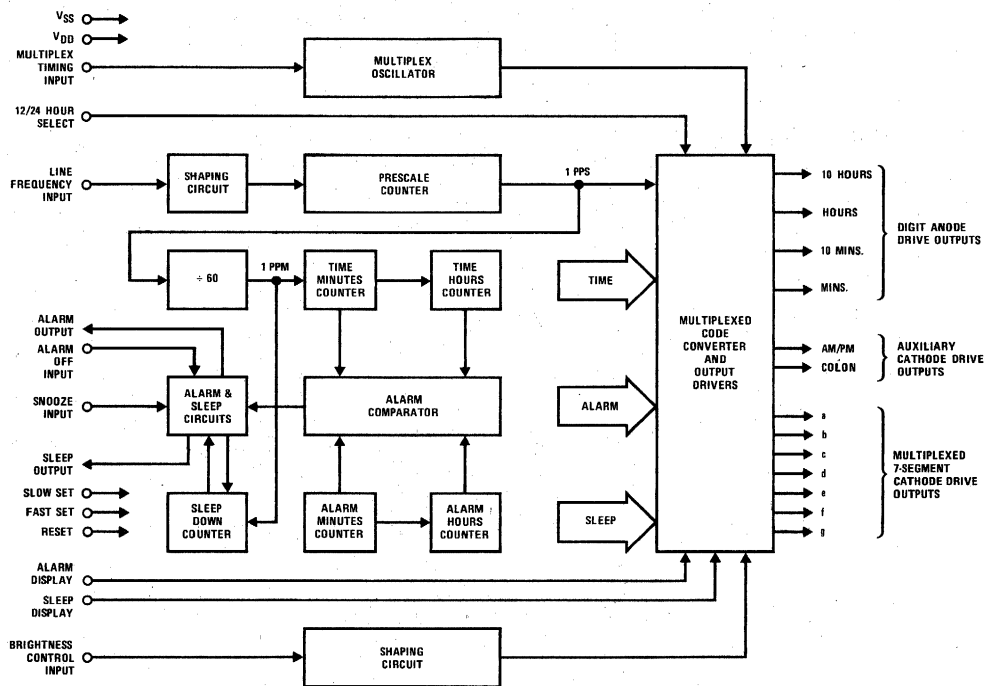
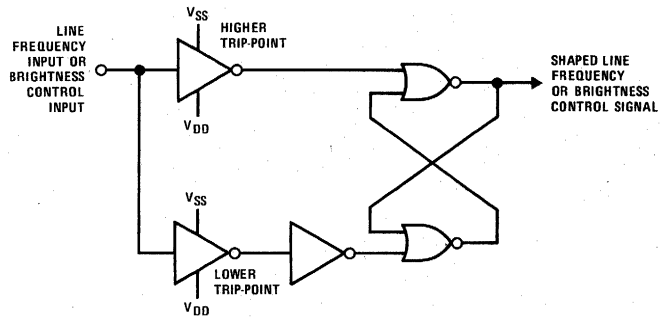
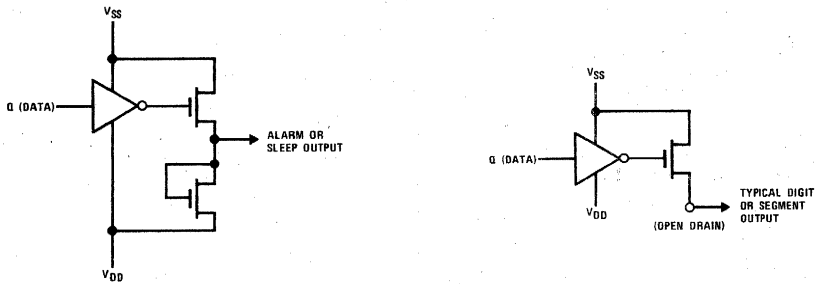
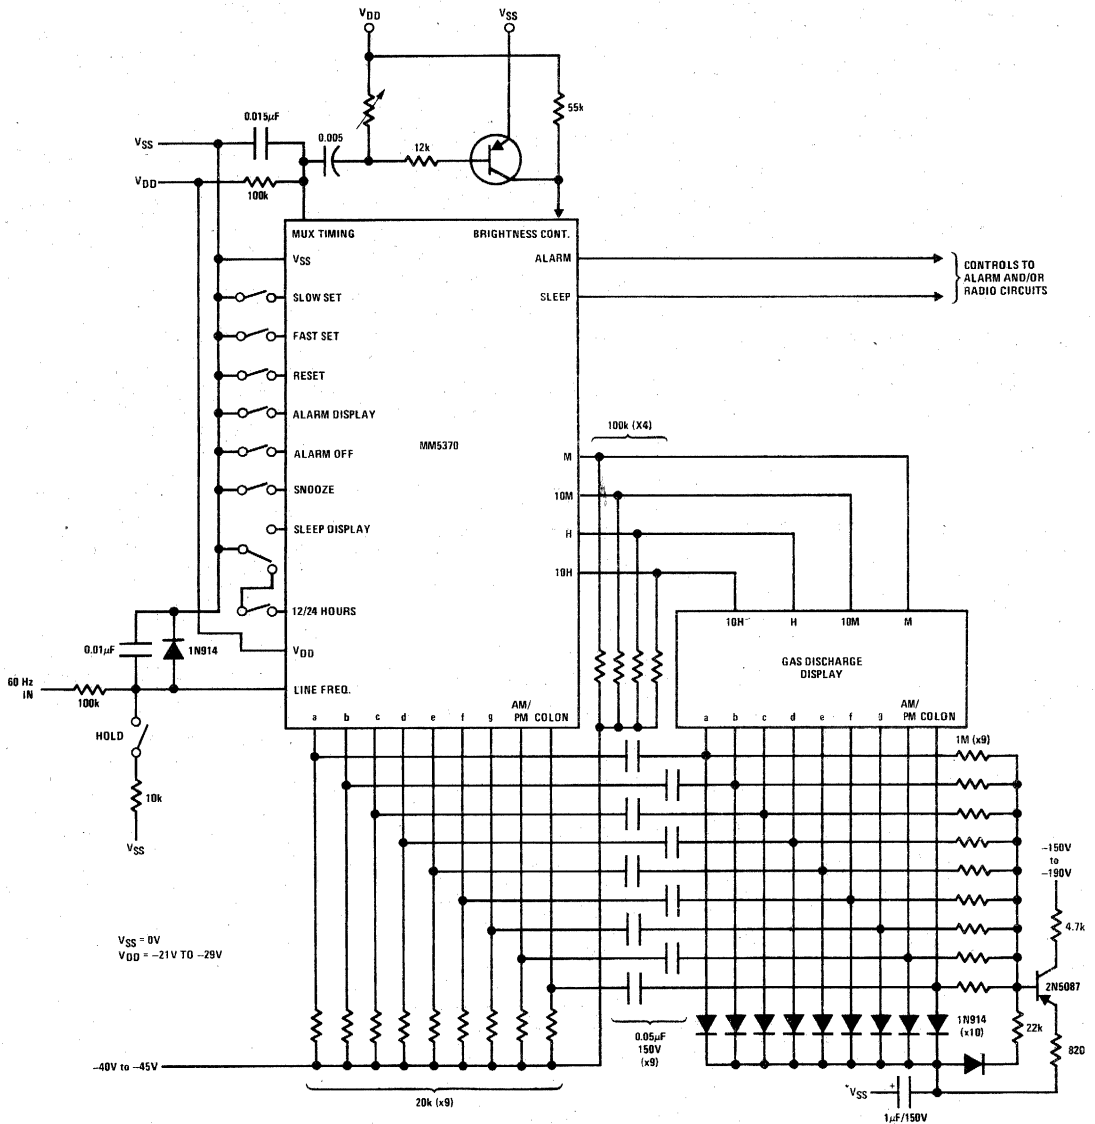

FIGURE 1. MM5370 and MM5371 Digital Alarm Clock, Block Diagram
FIGURE 2. 60 Hz (or 50 Hz) Input (or Brightness Control Input) Shaping Circuit
FIGURE 7. Output Circuits
FIGURE 8. Recommended Application
A block diagram of the MM5370 and MM5371 clocks is shown in *Figure 1*. The various display modes provided by these clocks are listed in Table I. The functions of the controls are listed in Table II. A connection diagram for these devices is shown on page 1. Unless indicated otherwise, the following discussions are based on *Figure 1*.
Line Frequency Input (pin 12): A shaping circuit is provided to square the 60 Hz (MM5370) or 50 Hz (MM5371) input. This circuit allows use of a sinewave input. The Schmitt Trigger shaper (*Figure 2*) is designed to provide approximately 6V of hysteresis. A simple RC filter, such as shown in *Figure 8*, should be used to remove possible line-voltage transients that could cause the clock to gain time or damage the device. The shaper output drives a counter chain which performs the time-keeping function. A prescale counter divides the line input frequency to obtain a 1 pps timebase.
Display Mode Select Inputs (pins 7 and 8): In the absence of either of these inputs, the display drivers output time-of-day information to the display. Internal pull-down (to V_{DD}) depletion loads allow use of simple SPST switches for connecting these inputs to V_{SS} , thereby selecting alternate display modes. If more than one mode is simultaneously selected, the priorities are noted in Table I. As shown in *Figure 1* the multiplexed code converter receives time, alarm and sleep information from appropriate points in the clock circuitry. The display mode select inputs control the gating of the desired data to the multiplexed code converter inputs and ultimately (via output drivers) to the display.
Time Setting Inputs (pins 10 and 11): Both fast and slow setting inputs are provided. These inputs are applied either singly or in combination to obtain the control functions listed in Table II. Again, internal pull-down depletion loads are provided; application of V_{SS} to these pins effects the control functions. Note that the control functions proper are determined by the selected display mode. An optional hold-time control function can be obtained as shown in *Figure 8*.
12 or 24-Hour Select Input (pin 13): By leaving this pin unconnected, the clock is programmed to provide a 12-hour display format. This format provides for zero-blanking the most significant display digit (ten's of hours). An internal pull-down depletion load is again provided; connecting this pin to V_{SS} programs the 24-hour display format. (See *Figure 8*).
When driving gas discharge displays which enclose more than one digit in a common gas envelope, it is necessary to either (1) inhibit the segment drive voltage(s) for a short time during inter-digit transitions, or (2) avoid physically adjacent inter-digit transitions. The MM5370 and MM5371 clocks utilize an interlaced output sequence to eliminate the need for inter-digit blanking circuitry and to prevent display arcing problems. The digit sequence is: (1) digit no. 1 (ten's of hours), (2) digit no. 3 (ten's of minutes), (3) blank for one digit time, (4) digit no. 2 (unit hours), (5) digit no. 4 (unit minutes), (6) blank for one digit time, etc. The two blanking intervals are provided to recharge level-translating capacitors located in the display segment drive lines (see *Figure 8*). Both segment data and digit enables are blanked. *Figure 3* is a timing diagram which illustrates output timing.
Output Circuits: All display output drivers are open-drain devices with sources common to V_{SS} (pin 5), see *Figure 7*. *Figure 8* illustrates interfacing the clock outputs and a gas discharge display.
Brightness Control Input (pin 15): Since display brightness is a function of cathode segment current, a capability of interrupting this current for a variable percentage of the digit interval results in a brightness control. Connecting this Schmitt Trigger input (see *Figure 2*) to V_{DD} places all cathode segment drive voltages at the high level, thereby inhibiting the display. Conversely, V_{SS} applied to this input enables the cathode segment drives. The Schmitt Trigger shaper provides approximately 1V of hysteresis, which facilitates using a waveform such as a sawtooth with a variable slope (or variable dc component) to effect the shaper output duty cycle and, therefore, the display brightness. The control waveform should be derived from the multiplex frequency; a circuit is included in *Figure 8*.
Alarm Operation and Output (pin 2): An alarm comparator (see *Figure 1*) senses coincidence between the alarm counters (the alarm setting) and the time counters (real time). The comparator output is used to set a latch in the alarm and sleep circuits. This latch enables the alarm output driver (see *Figure 7*), the output of which is used to control the external alarm sound generator. The alarm latch remains set for 59 minutes, during which the alarm will sound if the latch output is not
sleep display mode (see Table I) and setting the desired time interval (see Table II). This automatically results in a current-source output via pin 4 which can be used to turn on a radio. When the sleep counter, which counts downwards, reaches 00 minutes a latch is reset and the sleep output drive current is removed, thereby turning off the radio. This turn off also may be manually controlled (at any time in the count-down) by a momentary V_{SS} connection to the snooze input (pin 1). This input is also returned to V_{DD} by a depletion load. The output circuitry is the same as the alarm output (see Figure 7).